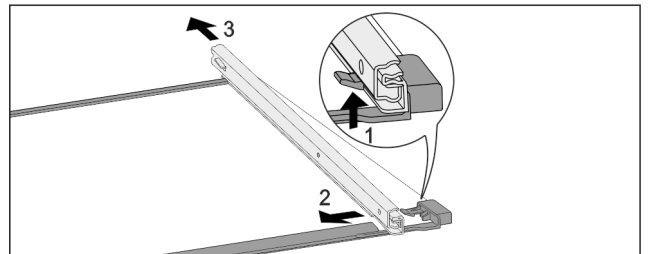

Fig. 247 Glass shelf with rails
- ▶ Push up front click-in hooks. Fig. 247 (1)
- ▶ Move the pull-out rails to the side Fig. 247 (2) and to the rear Fig. 247 (3).